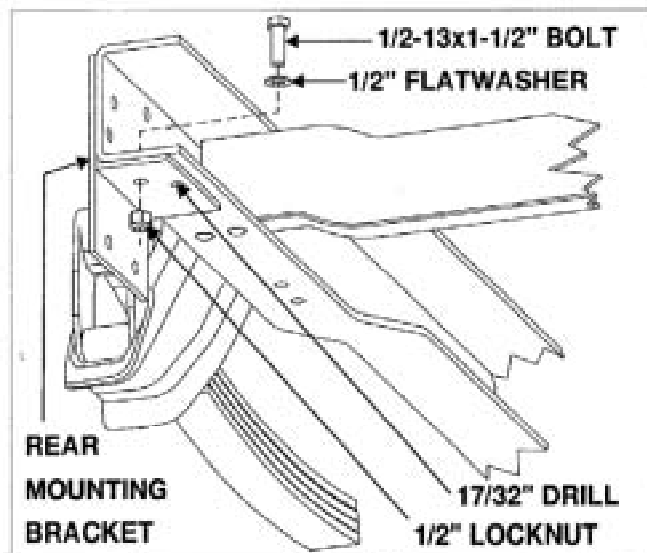

Figure 3
5. Position rear subframe brackets to frame rails and align holes. Install one 1/2"x1-1/2" hex head capscrew, with 1/2" flat washer down through slot in lower frame flange and mount bracket. Secure with 1/2" locknut. Repeat for opposite side. See Figure 3.